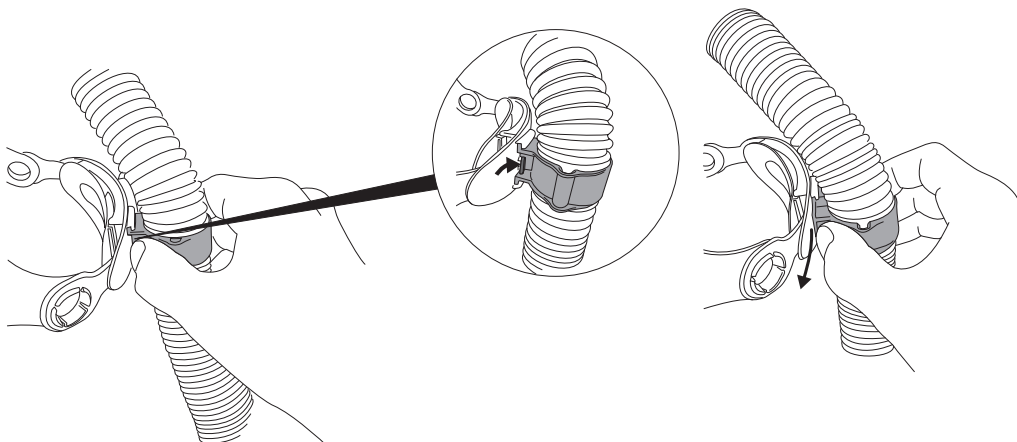

Fig. 18a
- a. Disconnect the welding helmet airduct tube (see “Connecting and Disconnecting Breathing Tubes” in “Operating Instructions”) (Fig. 18a).